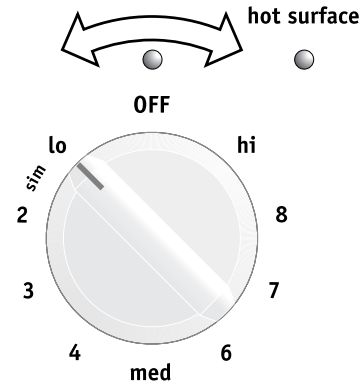

Fig. 2
2. Push in and turn the surface control knob in either direction (Fig. 2) to the desired setting (See the **suggested power level settings for single or dual radiant elements** in Fig. 1).